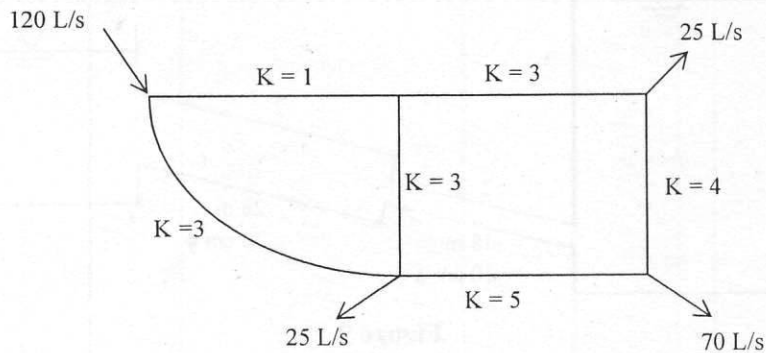

Figure 6
4.(a) Water flows into and out of a two-loop pipe system as shown in Figure 6. Determine the flow in each pipe. The k -values for each pipe are given in the figure. Use Hardy Cross method. (10)